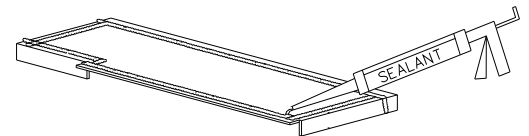

Figure 3:
- With bottom side of sillpan up, apply a 3/8" bead of compatible sealant 1/2" in from interior leg. Also apply sealant beads near the sides and across the front (Figure 3).